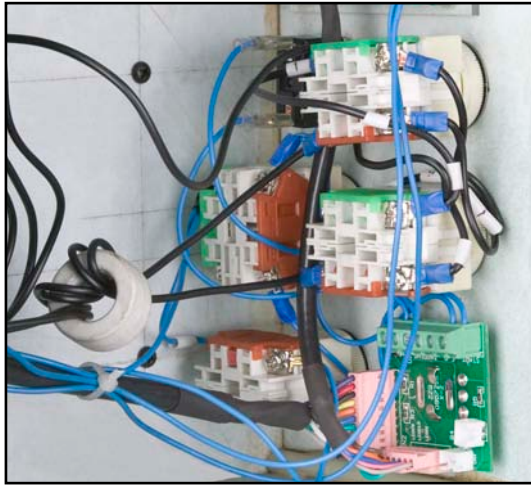

Figure 50. Control panel electrical.
- f** Control Panel (See Page 40 and Figure 50)